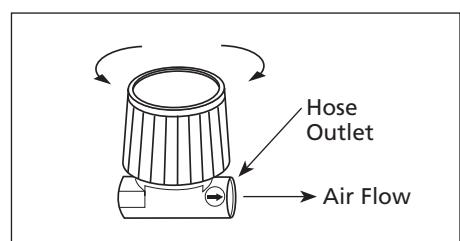

Figure 5
**NOTE:** Ensure air flow indicator arrow on regulator body points away from compressor (See Figure 5).